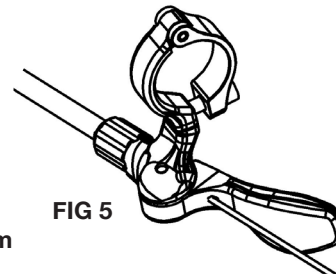

FIG 5
11. Install the inner cable and cable housing thru the barrel adjuster on the lever so the inner cable comes out the back side (FIG 5).